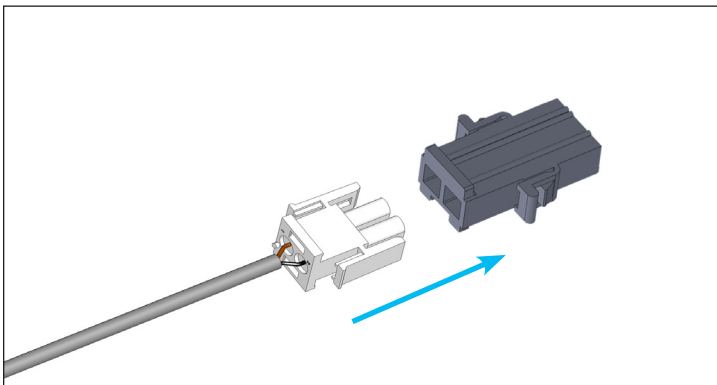

Fig. 2. Sign panel molex connector and sign area receptacle.
2. Plug the sign panel assembly wire into the receptacle. See fig. 2.